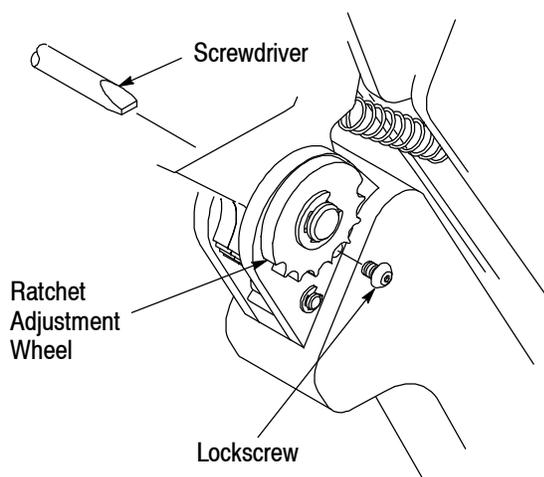

Figure 6
6. RATCHET(Shut Height) ADJUSTMENT (Figure 6)